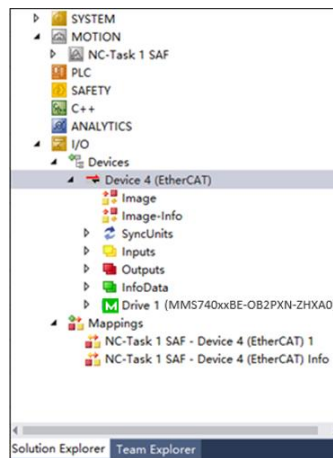

Figure 22: Device List
- c. If TwinCAT asks to scan the boxes, click “Yes.” After a successful scan, the devices should be listed (see Figure 22).